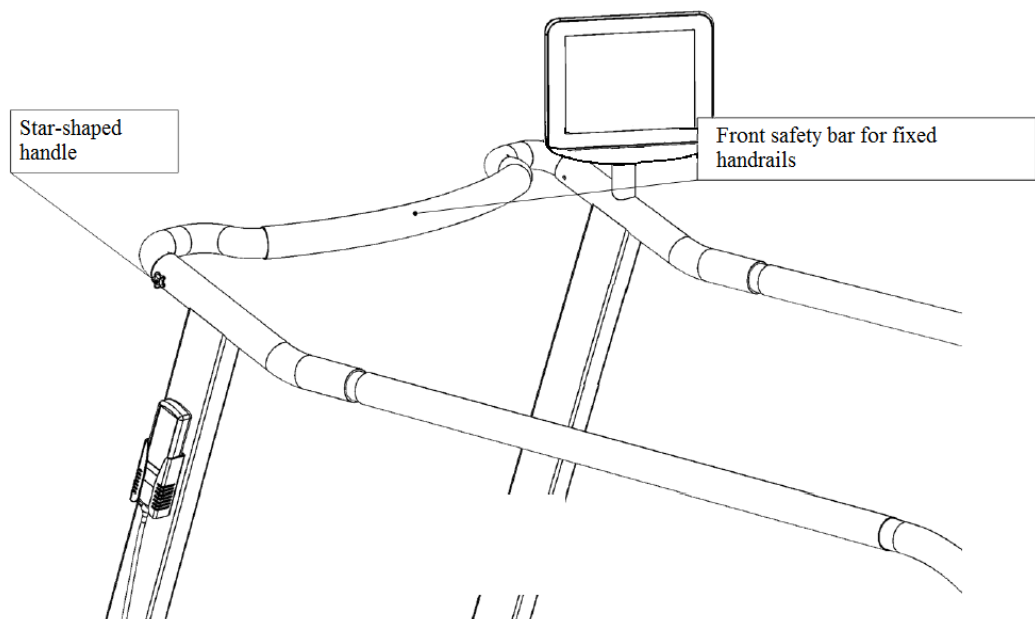
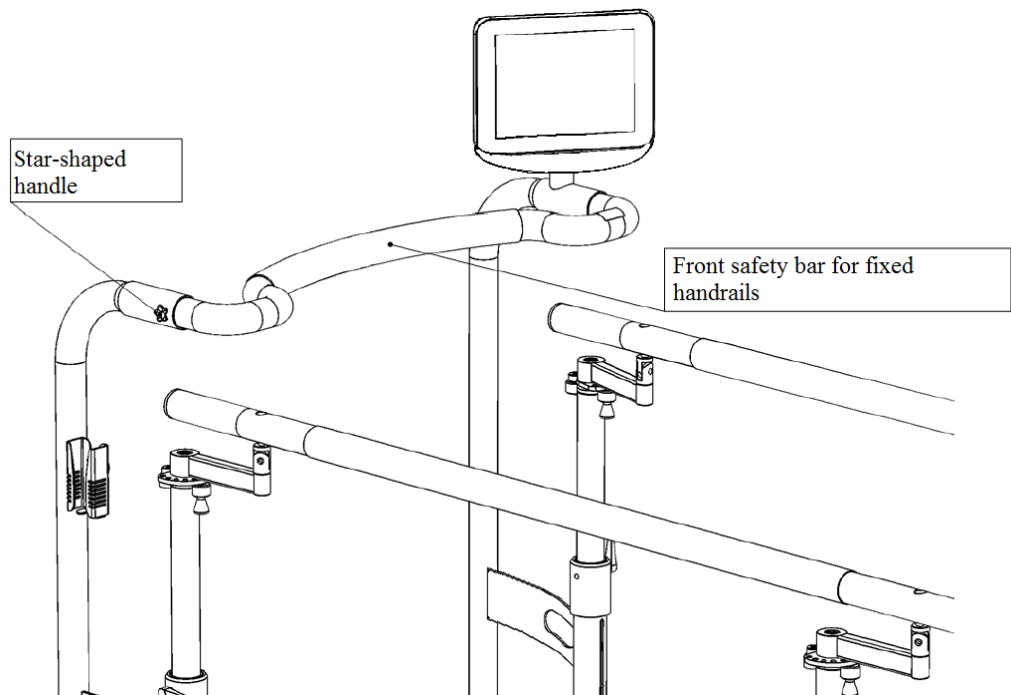

Figure 11 – Installation of front safety bar for fixed handrails
Figure 12 – Installation of front safety bar for adjustable handrails
- Place the safety bar into the corresponding holes of the fixed handrails (see Figure 11) or adjustable handrails (see Figure 12) by aligning the threaded holes in the front safety bar and the holes in the handrail.